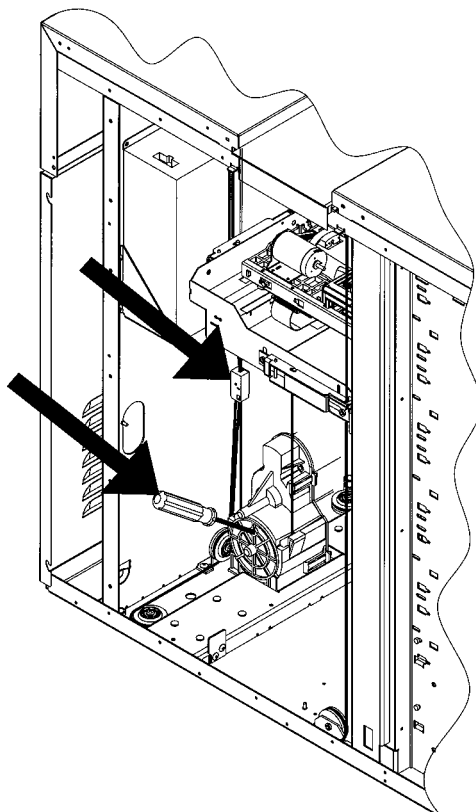

Figure 26: Holding the Translate Frame in Position
Caution: Raise the translate frame only by pulling on the vertical drive rope (see top arrow in Figure 26). The frame can be twisted by pulling it by the sides. A twisted frame may cause various errors in operation.
5. Raise the translate frame and picker up to a convenient working height so that you can access the underside of the picker. Insert a screwdriver into the vertical motor gear box to hold the frame in position. (see Figure 26).